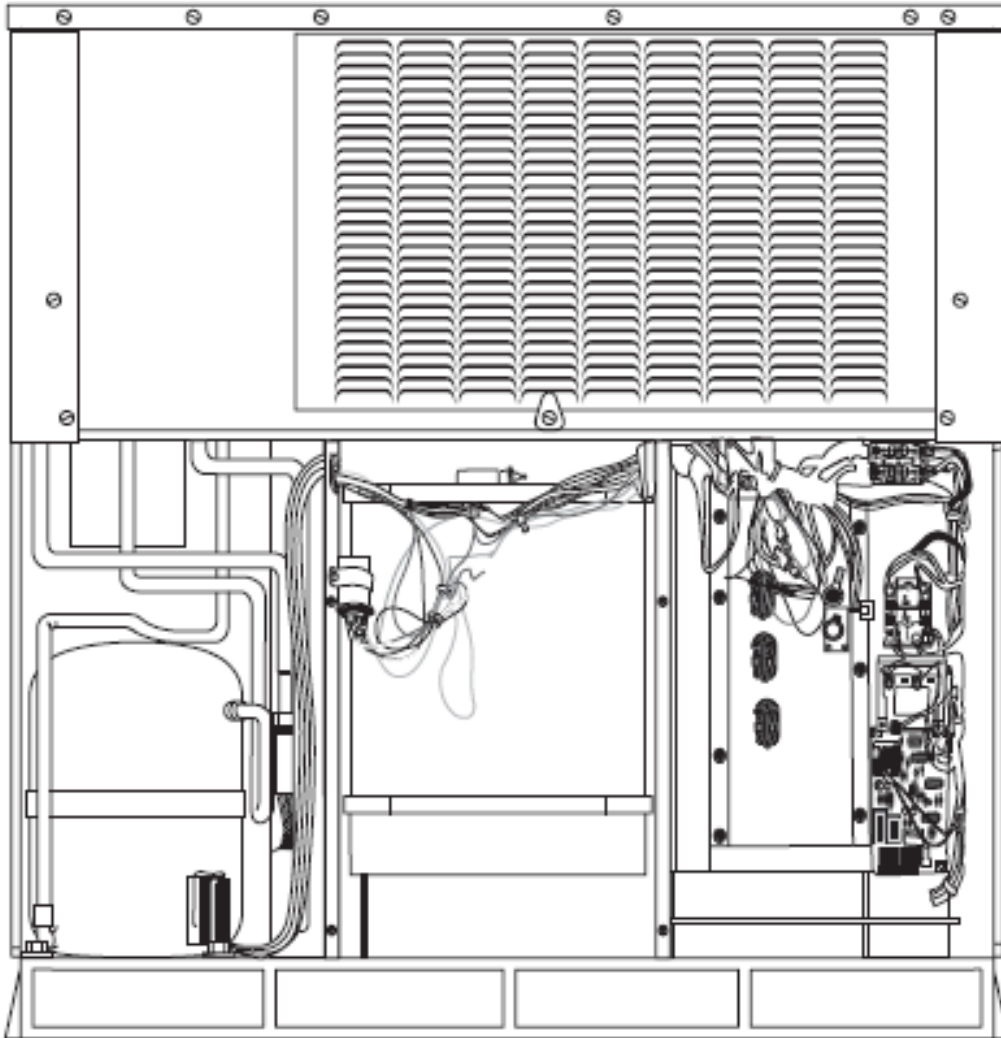

Figure 551-88L-2059_10
3. Conduct maintenance of air conditioning units, (refer to Figure 551-88L-2059_10).